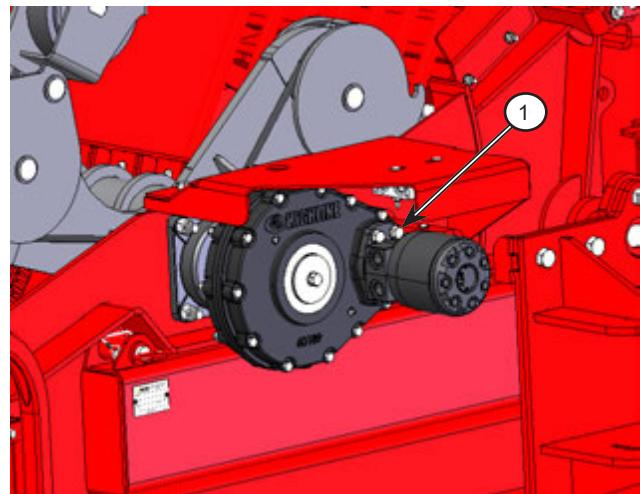

Figure 6.21: Check the motor mount bolts
1. Check that all the motor mount bolts (1) are tight and the motor is securely fastened to the gearbox; see *Figure 6.21*.